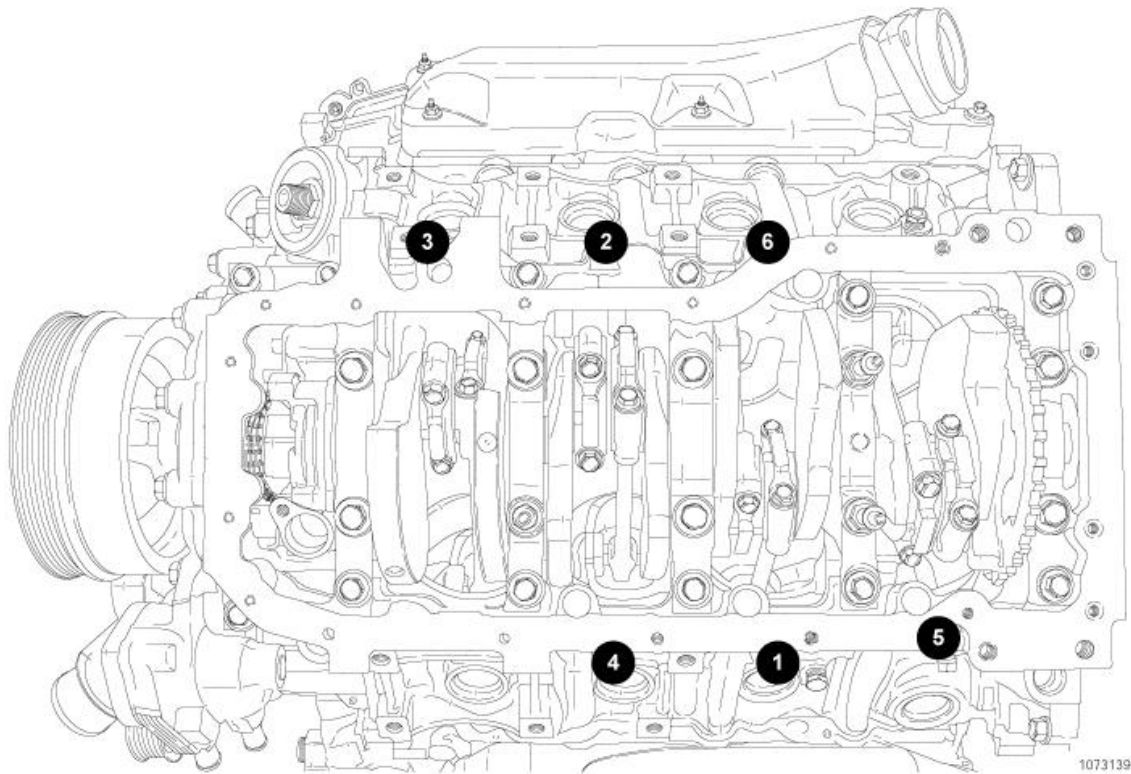

Fig. 149: Tightening Bedplate Bolts (4 Of 4)
10. Tighten bolts to 23 N.m (20 ft. lbs.) in the sequence shown in illustration. See **Fig. 149**.